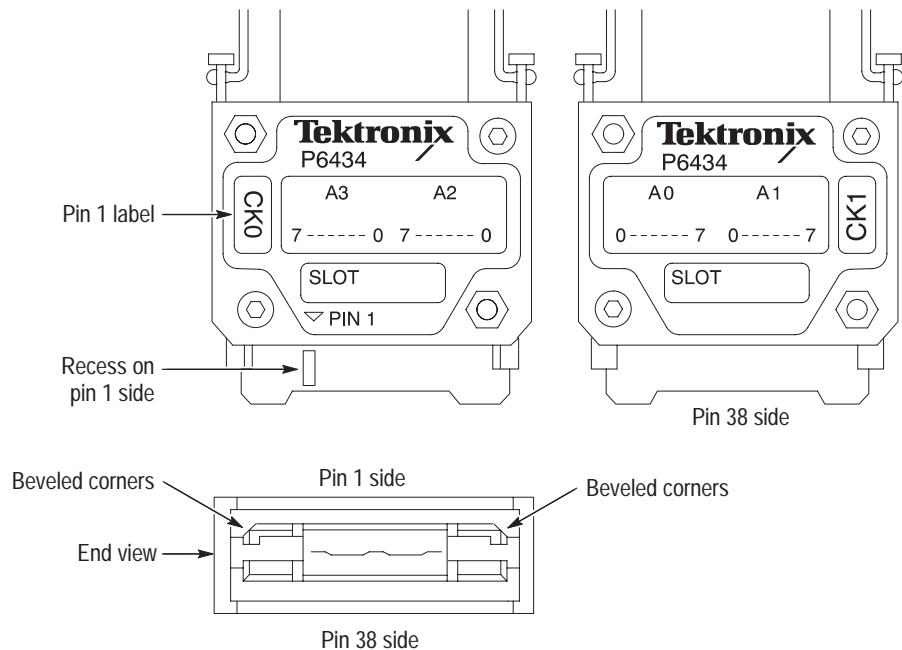

Figure 2–9: P6434 probe detail
3. If you are using a P6434 probe, label the probe channel group identified as the pin 38 side as Probe A. Label the probe channel group identified as the pin 1 side as Probe B, refer to Figure 2–9.